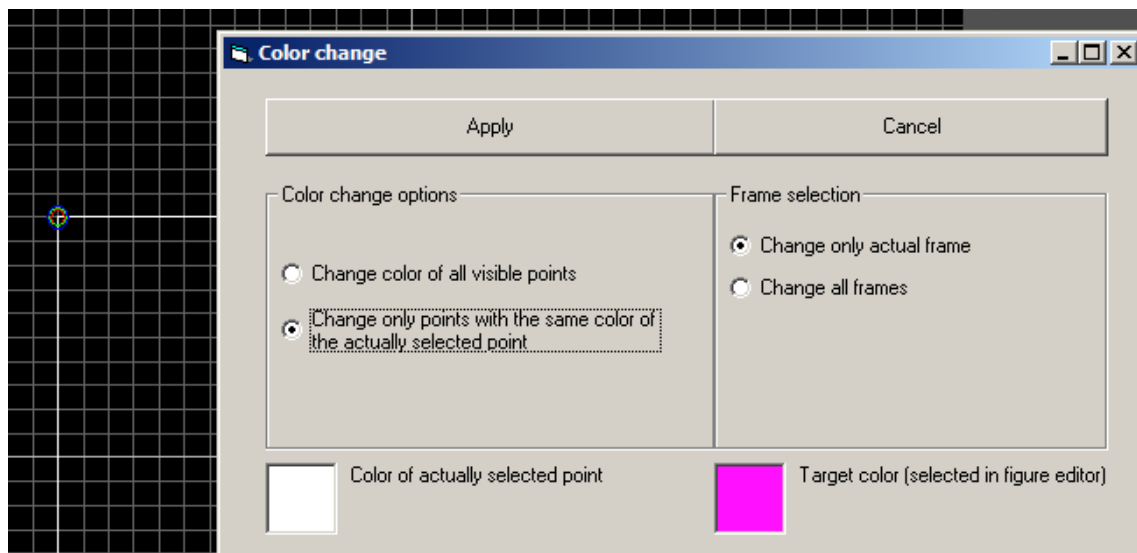

Fig. 63: Menu Edit/Color change. Dialog to change colors of points.
3. A click on *Edit->Color change* opens a dialog to set the options (see Fig. 63). Make the selections of your choice there. If "Color of actually selected point" or "Destination color" are not correct, click "Cancel" and change your selection.